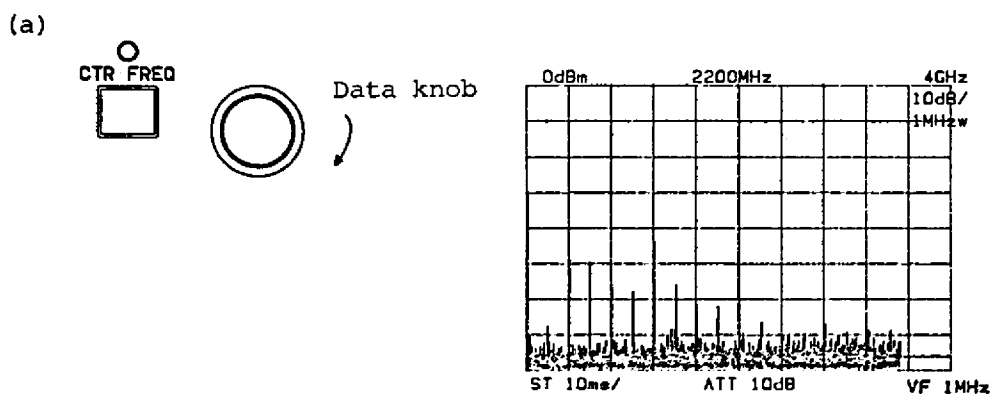

Figure 4-3 CF ADJ
- ③ When the ☐ ^{SHIFT}, ☐ _{CF ADJ} keys are pressed, the frequency display remains unchanged, but the spectrum moves to the center and the center frequency accuracy becomes 11 times the CAL OUT signal accuracy. (See Figure 4-3 (c).)
- ④ Input an unknown frequency and read the frequency. (See Figure 4-3 (d).)